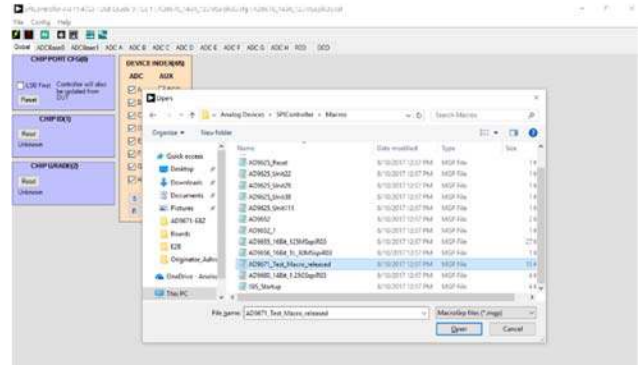

Figure 10. SPI Macro File Select Dialog Box
- In the main **SPIController** window, click **File**, then click the **MacroGroup Open** command, and select the **AD9671_Test_Macro_released.mgp** file (see Figure 10).